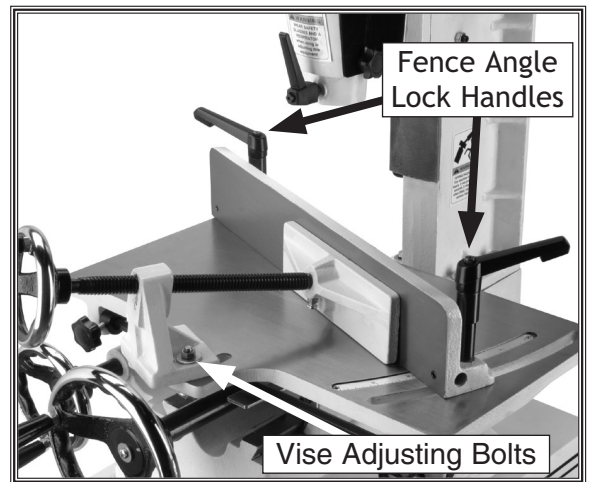

Figure 16. Controls for fence angling.
The fence can be angled from 0°-30°. The fence angling controls are shown in **Figure 16**.
4. Place the vise face flush against the fence, as shown in **Figure 16**. This helps to ensure the vise face is parallel to the fence.